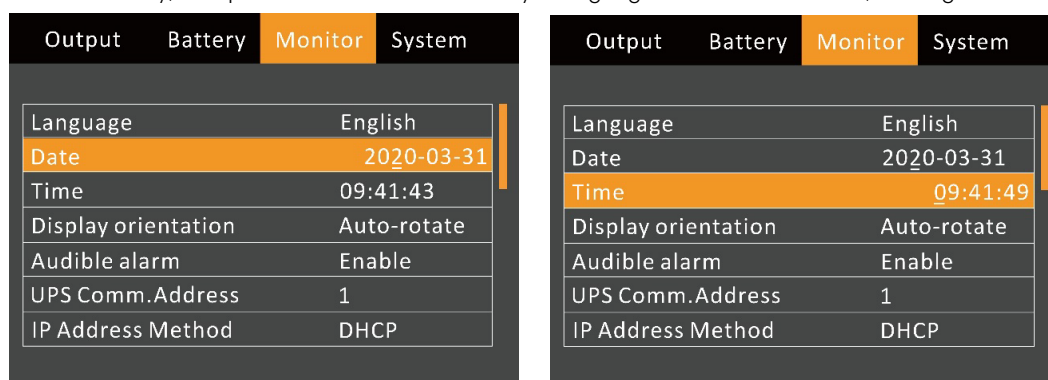

Figure 3-15 Selection of date and time
3. Press the key, and press the or key to highlight the date and time, see Figure 3-15.